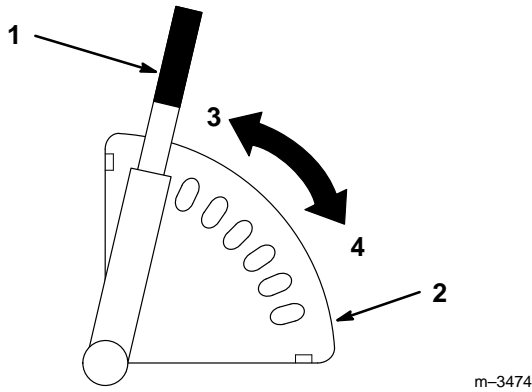

Figure 15
- 4. Release the lever inward to lock into the quadrant (Fig. 15).